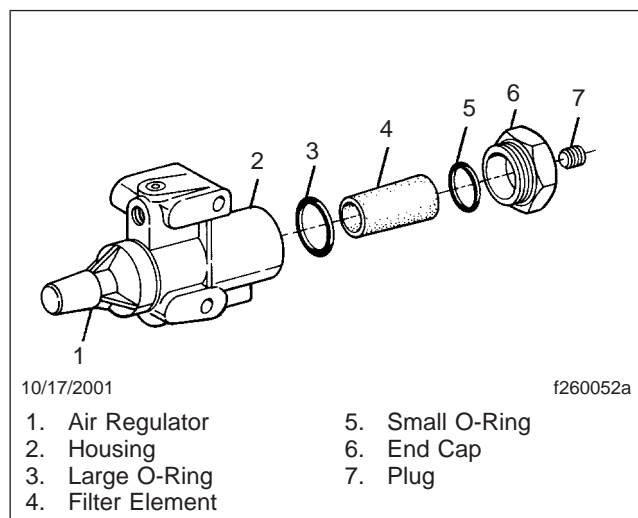

Fig. 4, Eaton Fuller Transmission Air Filter/ Regulator Components
3. Remove the end cap, large O-ring, and filter element from the filter housing. See Fig. 4. Remove the small O-ring from the end cap.